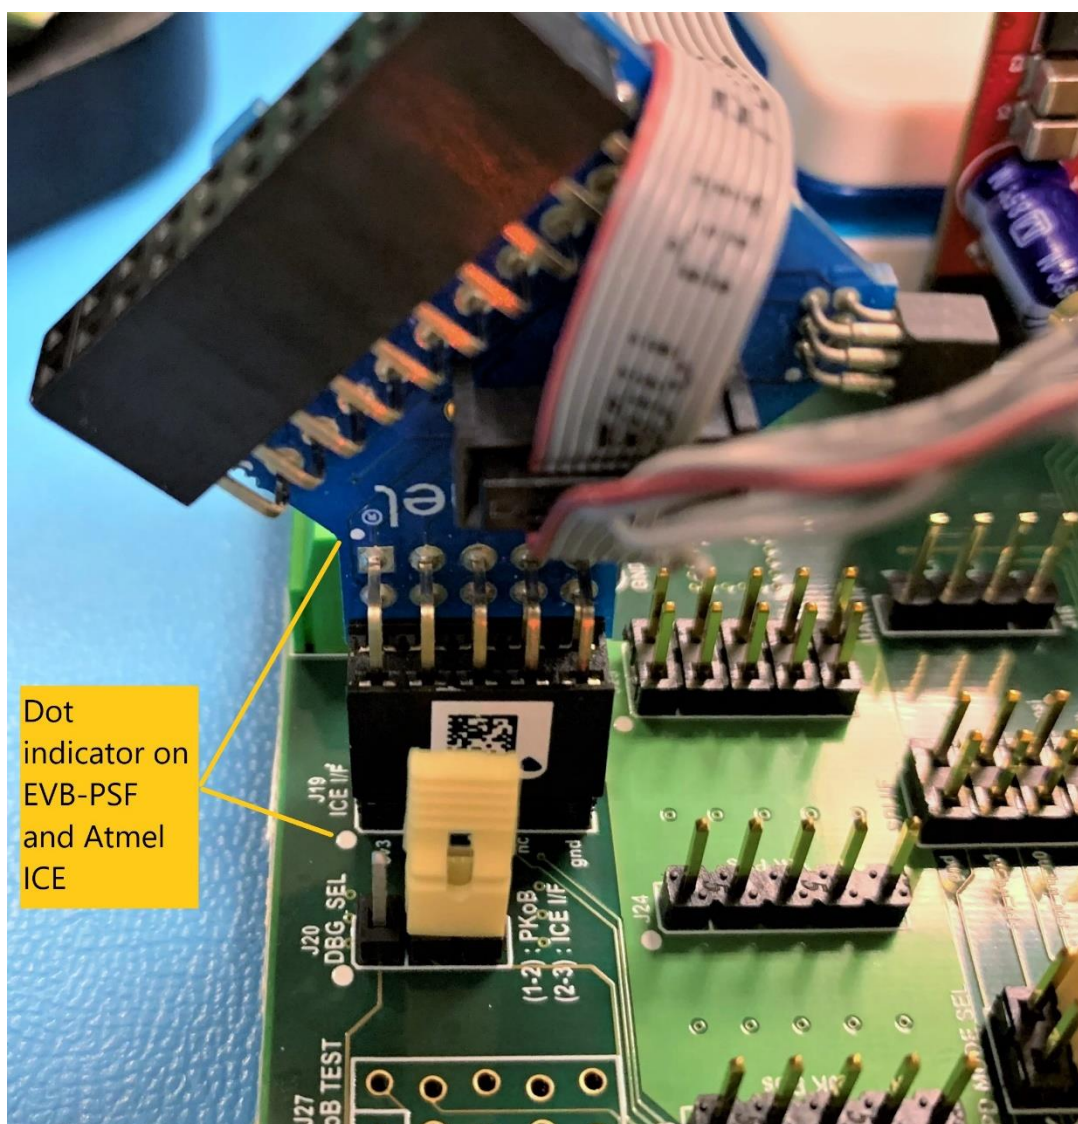

Figure 5.5 Programming using Atmel ICE (Optional)
7. Optionally, Atmel ICE can also be used for programming the board by connecting it to J19 as shown in the figure 5.5. Please ensure the jumper is switched to 2-3 on J20 while using Atmel ICE.